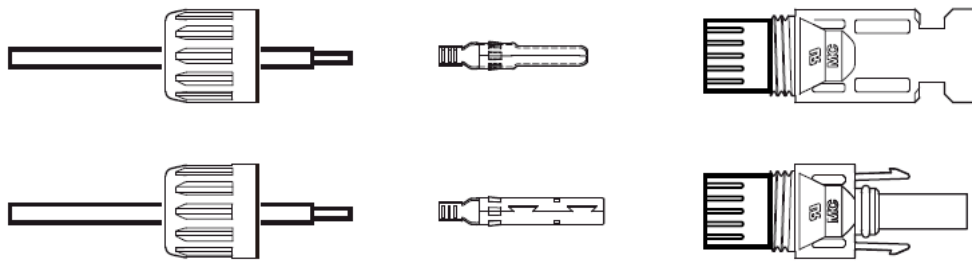

Figure 7.12.1 Disassemble the Connector Cap nut
- 1) Strip off the DC wire for about 7mm, disassemble the connector cap nut. (see Figure 7.12.1)